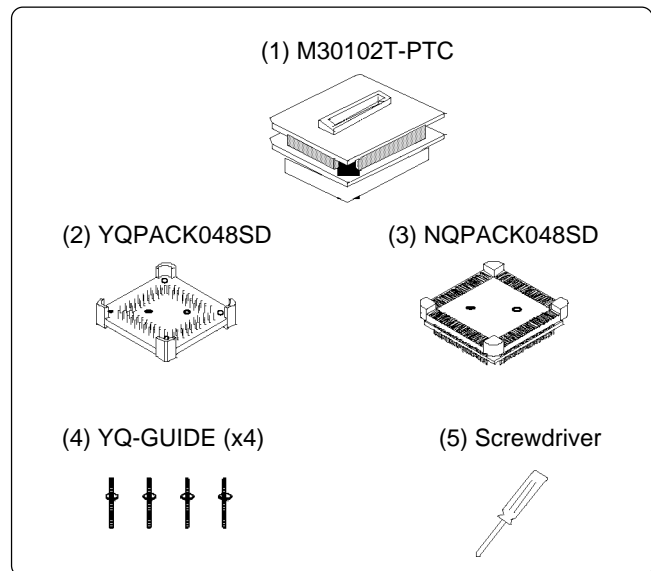

Figure 1 Package components of the M30102T-PTC
2. Package Components (see Figure 1)